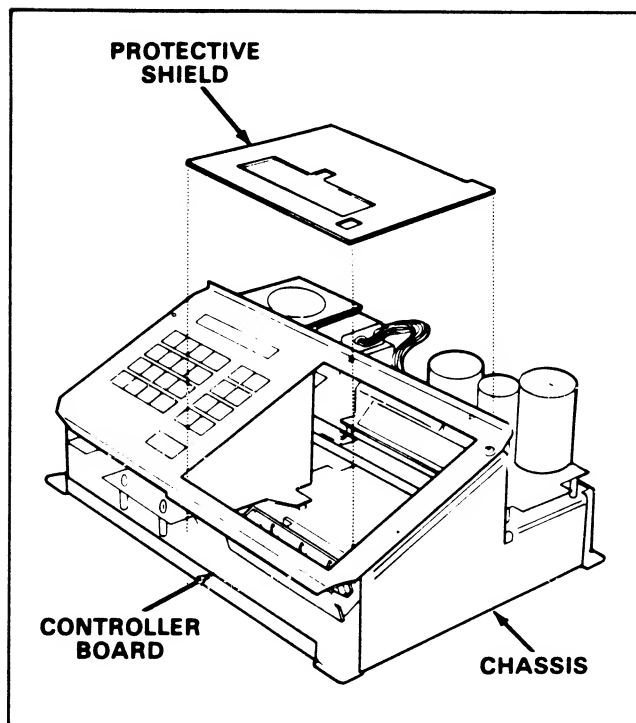

Figure 1. Protective Shield Removal
3. Remove the top cover by lifting it straight up. This step will expose the front portion of the controller board (see figure 1).
The controller board protective shield is a plastic plate located below the opening in the 29B's front panel (see figure 1). Remove the protective shield as directed in the following steps.